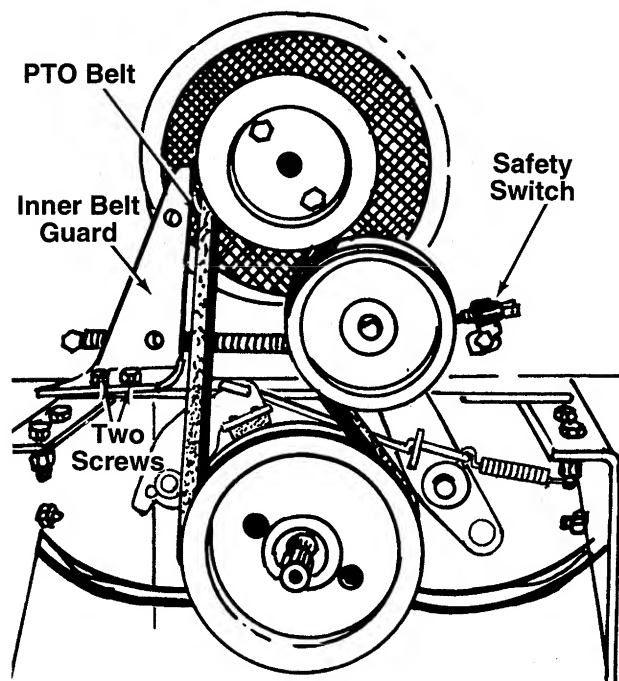

FIGURE 26.
3. Loosen two screws on inner belt guard. See figure 26.
**NOTE:** Figure 26 is shown with grille removed for clarity.